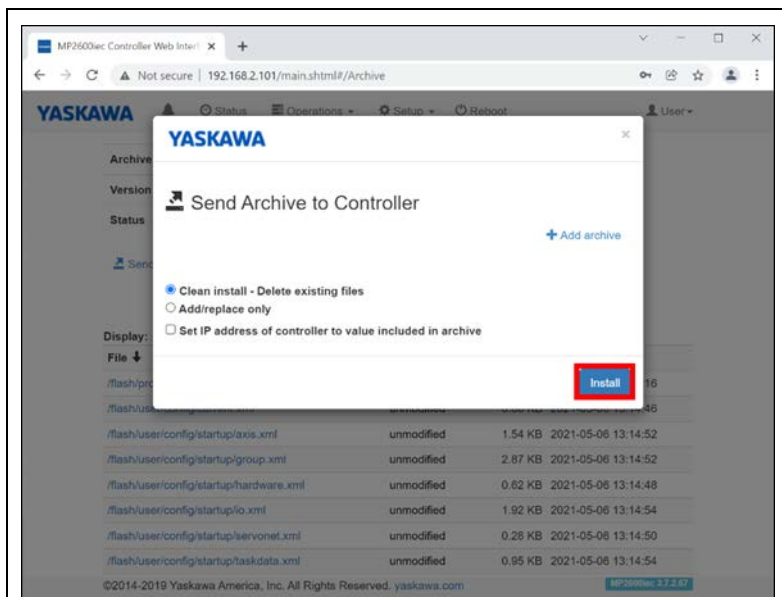

Figure 5-17
- vi. When the send progression bar to the left of the Send option is complete, then press the “Install” pushbutton in the lower right-hand corner of this Dialog box. Allow the Archive to fully install. (Refer to Figure 5-17)